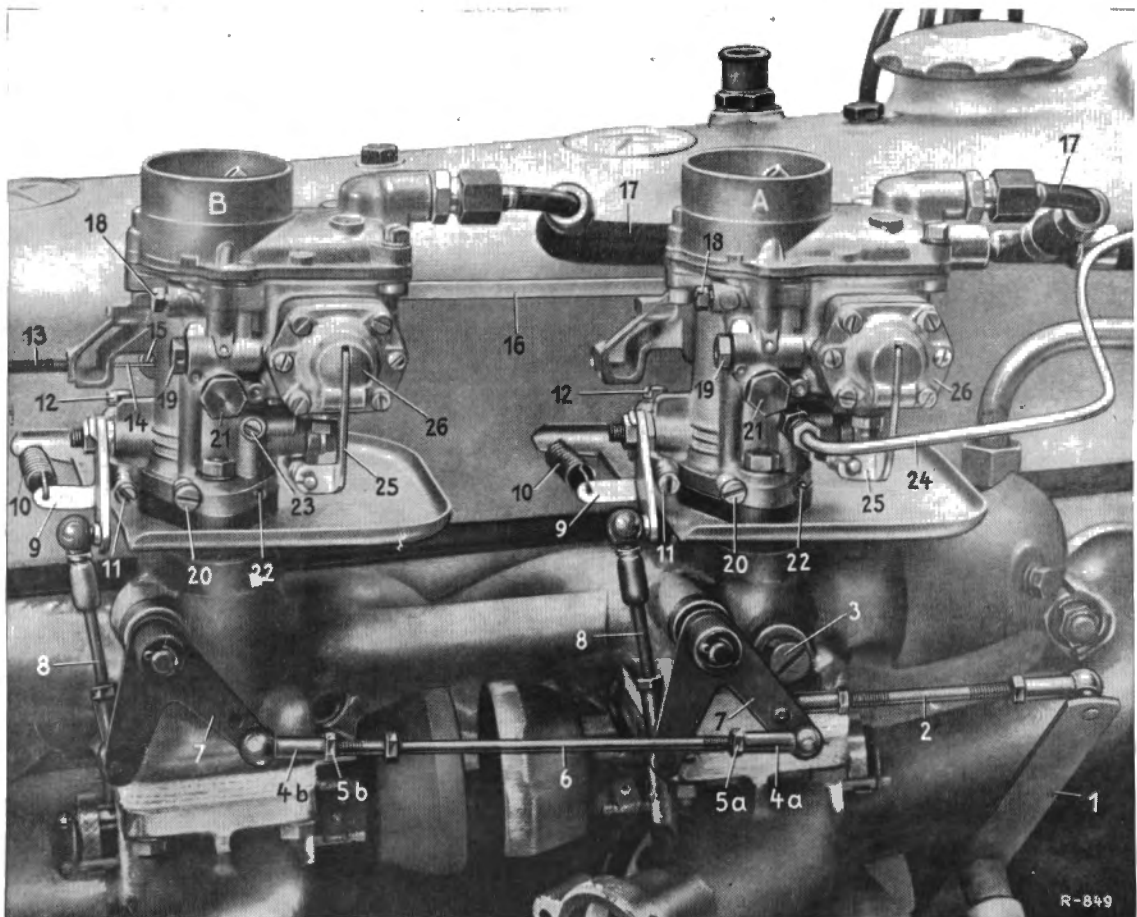

Fig. 00-13/2
The design and adjustment of the accelerator linkage is the same in Models 220 b and 220 Sb. On recent cars of both Models a progressive linkage has been installed in order to improve fuel metering for starting off and low speed (see Fig. 00-13/4).
1. Detach the push rods (2) and (6), or (3) and (5) in Fig. 00-13/4, check their length and adjust them. The length of push rod (2) should be 85 mm, in the case of push rod (5) 98 mm, from center ball socket to center ball socket. The length of push rod (6), or (3), should be 188 mm. After adjustment apply grease to the ball sockets of the push rods and press the ball sockets home again. Now detach the spring-loaded push rod (8), or (1), from the front and rear carburetors. Check the carburetor linkage and the throttle valve shafts for freedom of movement and if necessary detach the return springs (10) (Figs. 00-13/2, 00-13/3, and 00-13/4).